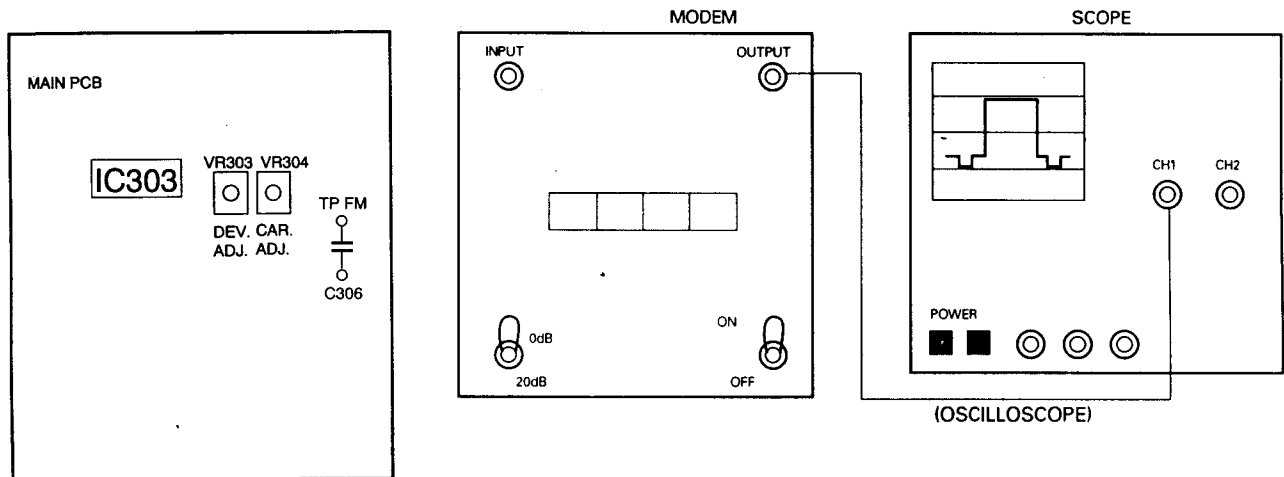

Fig. 8
- Connect by referring to Fig 8. (But, the set and Modem Test must be connected by a 1:1 probe.)
- Connect by referring to figure 8. (But, the Set and Modem Test is connected by a 1:1 probe.)